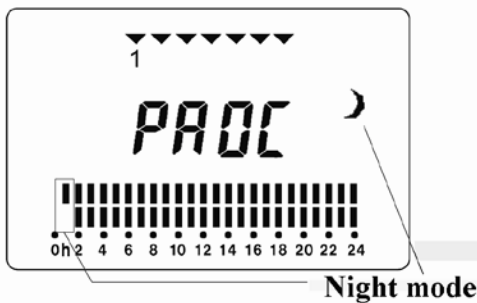
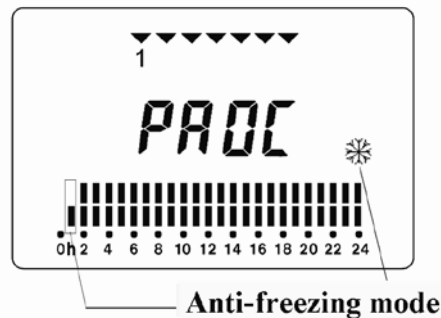
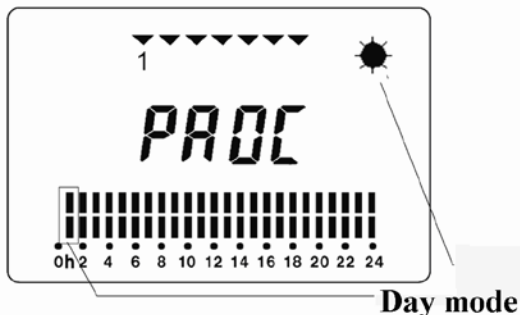

Figure 10
Figure 11
Figure 12
- Press the mode button: day (“☀”), night (“☾”), or anti-freezing (“❄”) that you wish to have for this time interval. If you press night button, the symbol “☾” will appear on the screen and the bar of the upper area will flash (figure 10). If you press anti-freezing button the symbol “❄” will appear in the screen and the bar in the lower area will flash (figure 11). If you press day button, “☀” will appear in the screen and two bars will remain flashing(figure 12). The first hour of operation is already programmed.